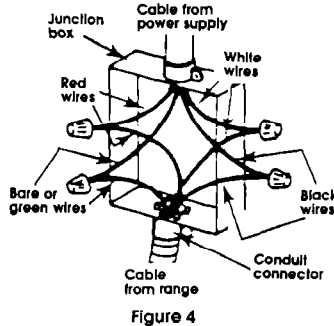

Figure 4
Four-wire power supply cord must be used in a mobile home installation. The appliance wiring will need to be revised. See Electrical requirements, Figure 4, Panel B.
3. Connect the two black wires, then the two red wires. See Figure 4.